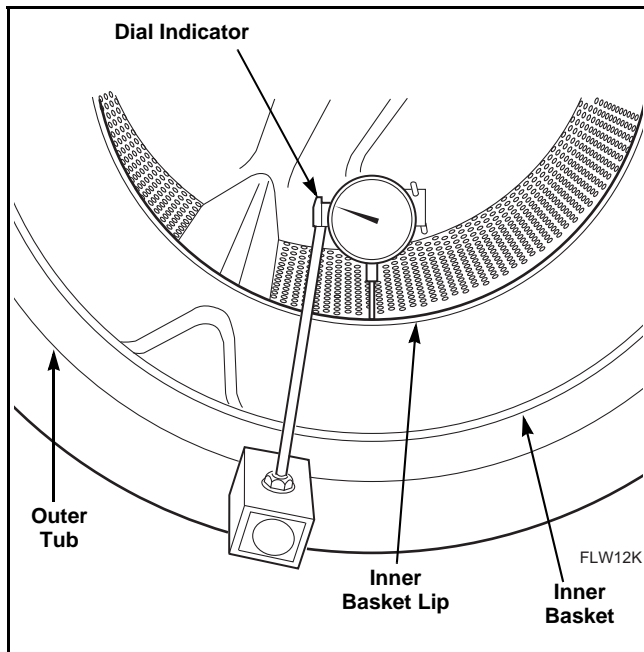

Figure 42
- i. Check for concentricity/roundness of assembly. Use a dial indicator to check that concentricity at the inside edge of inner basket lip is a maximum of .05 inch TIR (Total Indicator Runout). Refer to *Figure 42*. If concentricity is not within .05 inch, remove assembly from washer and adjust location of trunnion. Repeat until concentricity is within .05 inch.